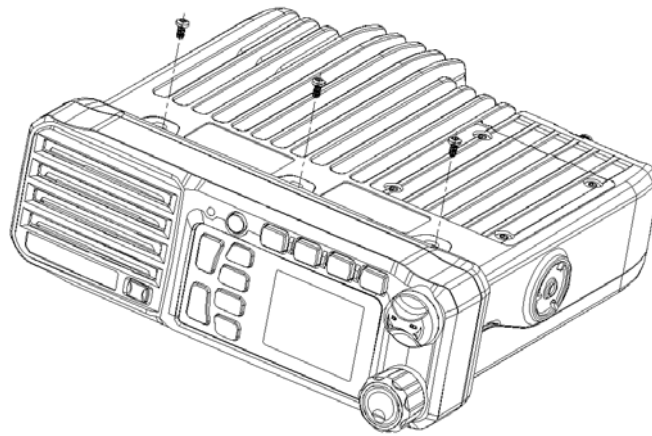

Figure 5.1
- (1) Unscrew 3 screws as per figure 5.1;